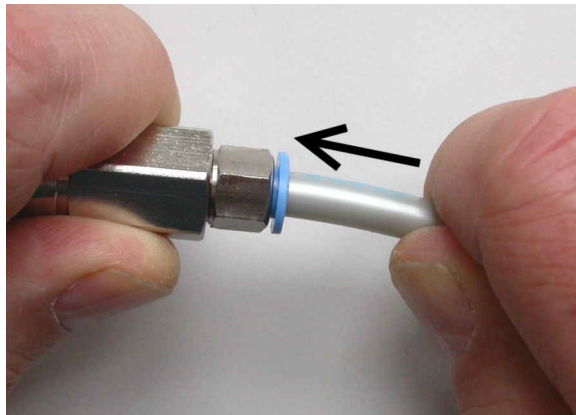

Figure 6-7: Assembly of push-pull adapter (left) and 6 mm tube (right)
5. Push the tube all the way into the adapter, as shown in Figure 6-7.